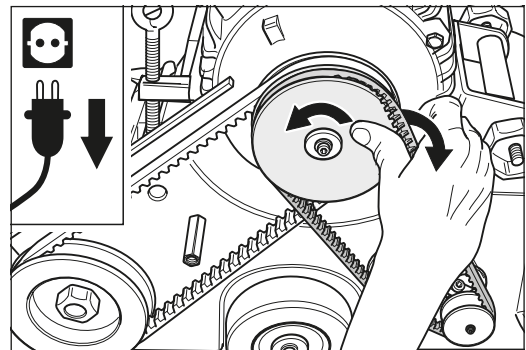

Fig. 90 Remove the suction V-belt.
- 8 Turn the motor pulley and allow the suction V-belt to run off the motor pulley (fig. 90).